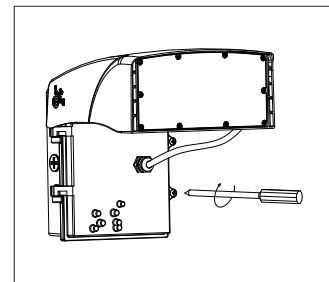
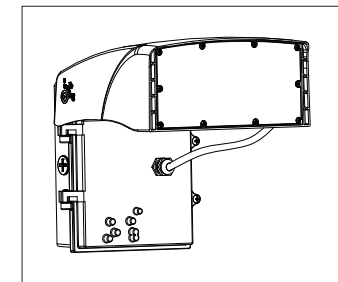

Figure 12
Figure 13
Step 8: Align front and back housing screws and tighten screws and tighten the screws of the lamp base (Figure 12 & Figure 13).